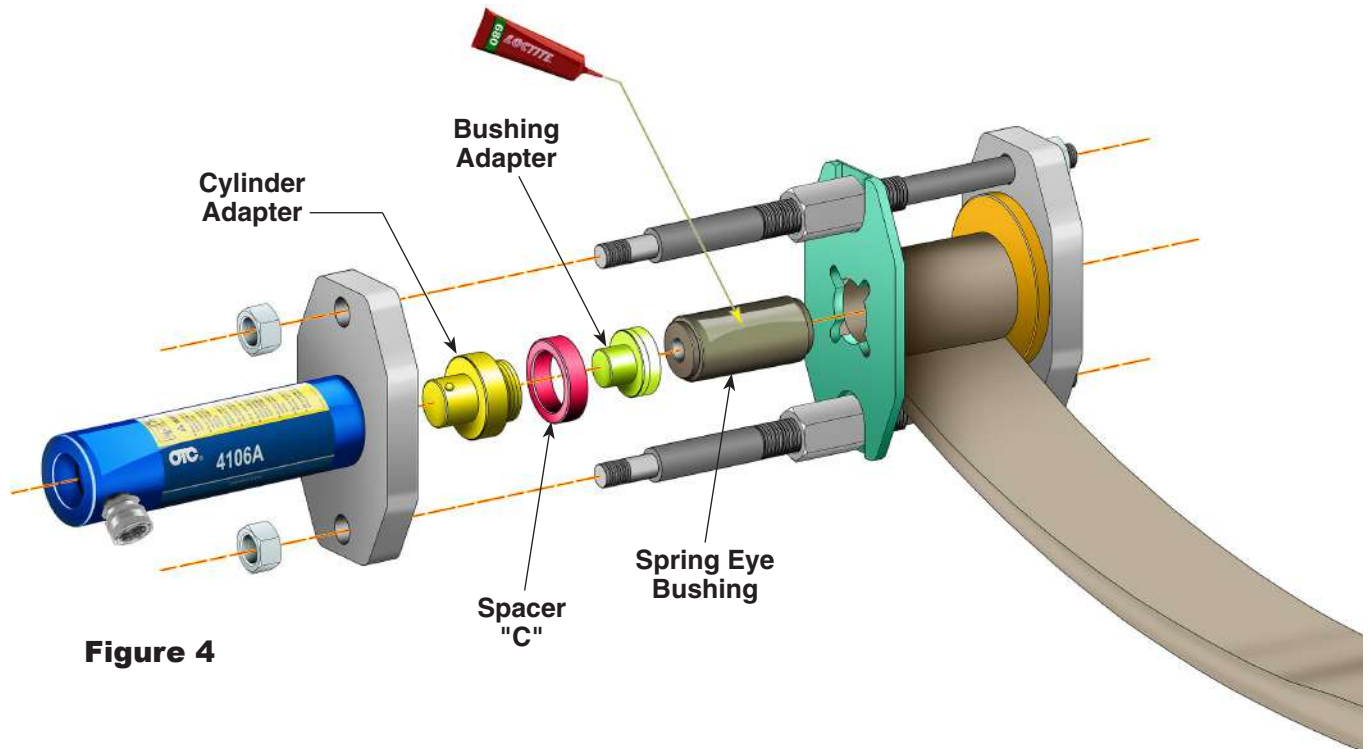

Figure 4
2. Insert the cylinder adapter into the head of the cylinder as shown in Figure 4.